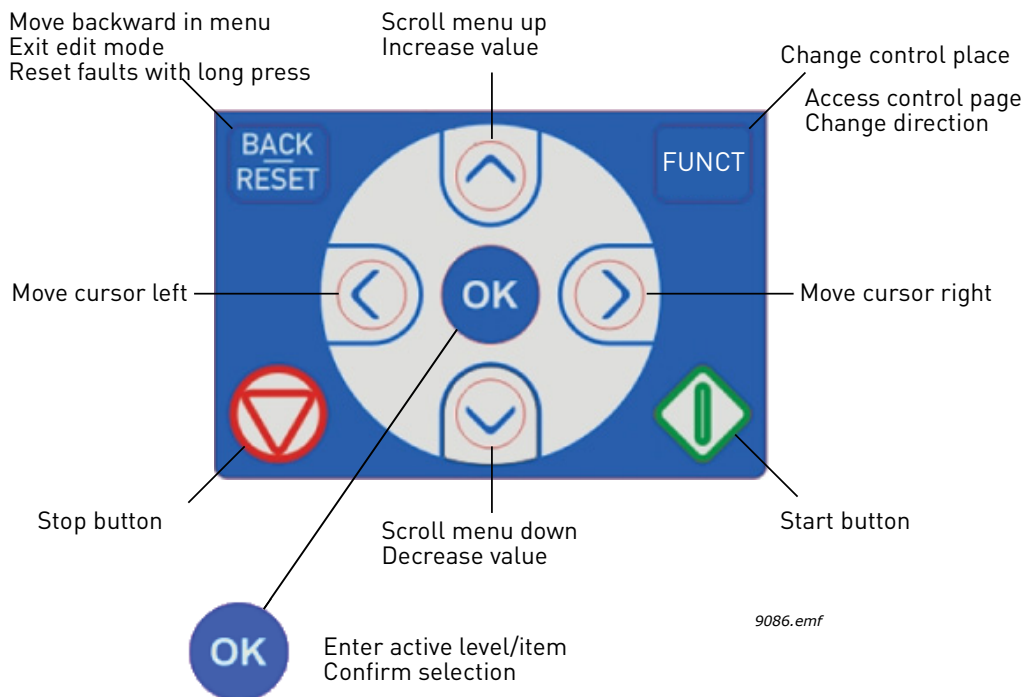

Figure 1. Keypad buttons
**The *Location field* indicates your current location. The *Status field* gives information about the present status of the drive.** See Figure 1.